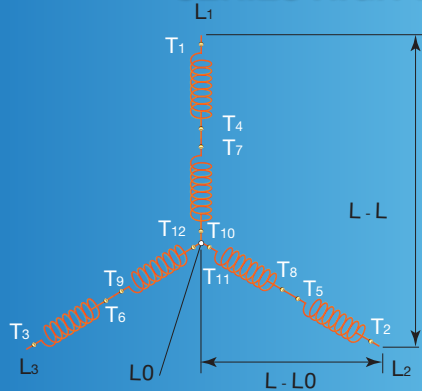

Figure 1A
6.1 SERIES HIGH WYE - In the Wye configuration, each pair of coils are connected in series with the end of each pair connected to the neutral point per **Figure 1A**.